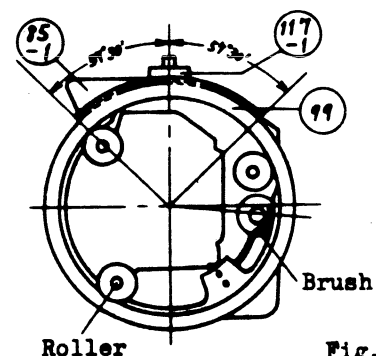

Fig. 13
- 5-2. \*The gearing position of the above mentioned F-idle gear is adjusted so that it comes to the center of the gear part of brush gear (#99) as shown in Fig. 13. (Refer to Fig. 2a and Fig. 5a)